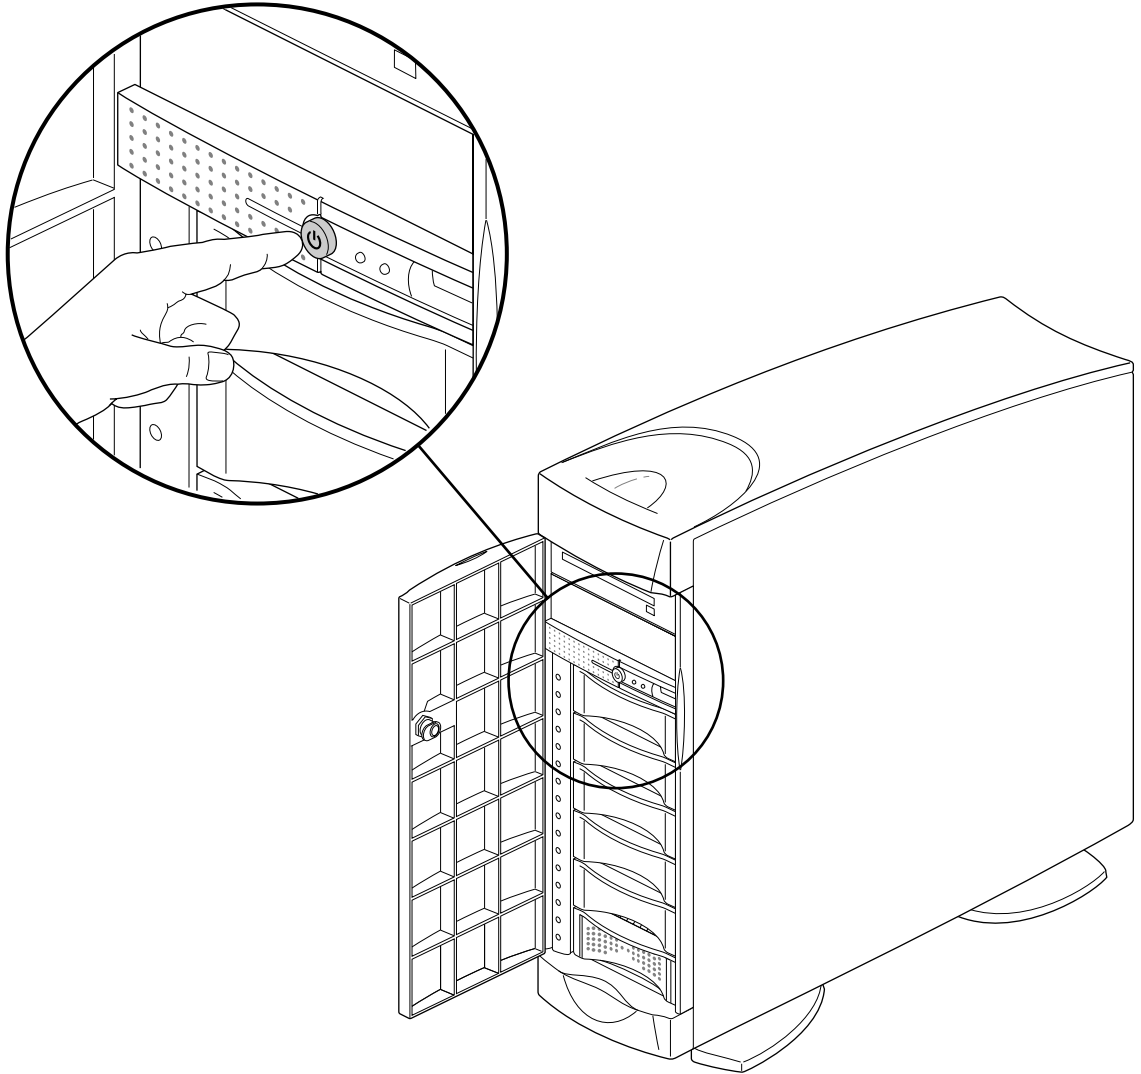

Figure 2-24 Turning On the Front Power Switch
2. At the front of the system, press the power button, as shown in Figure 2-24.